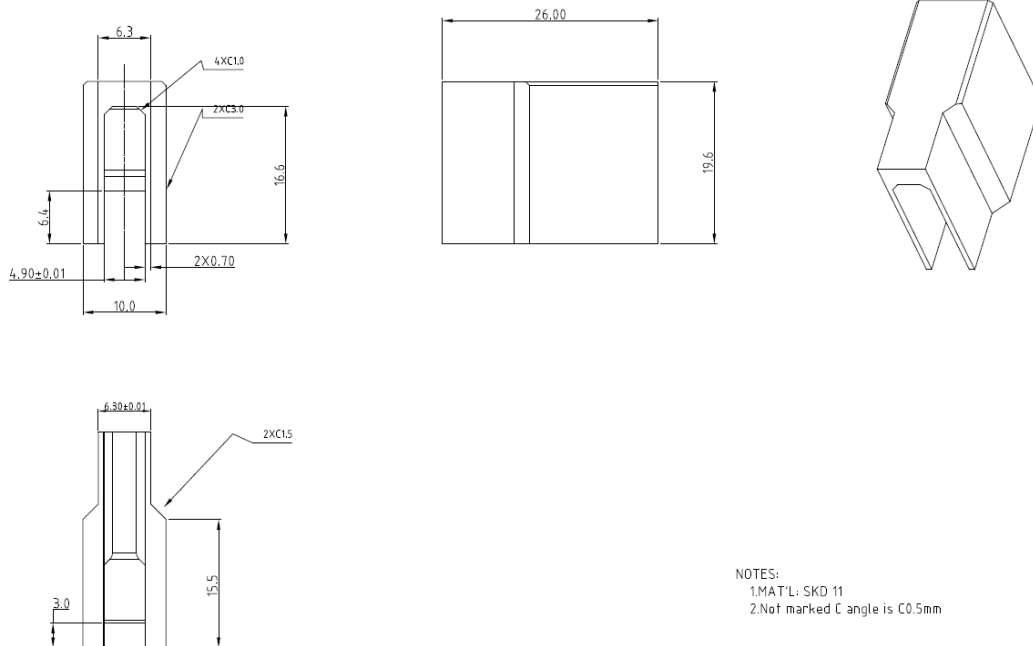

Figure 8: Orthogonal MINI Cool edge connector 1X1 application tools drawing
The application tools recommended drawing for 56pin 1X1 Orthogonal MINI cool edge connector (Pitch 12.5mm) are shown in Figure 8.
- Visually assure that the plastic standoffs on the bottom of each assembly are seated within 0.10 mm of flush to the PCB but not crushed (see Figure 8). A larger gap beneath the standoffs may indicate that the connector is not seated fully or is not seated parallel to the board. This can cause misalignment when the PCB is mated to the SSD card.